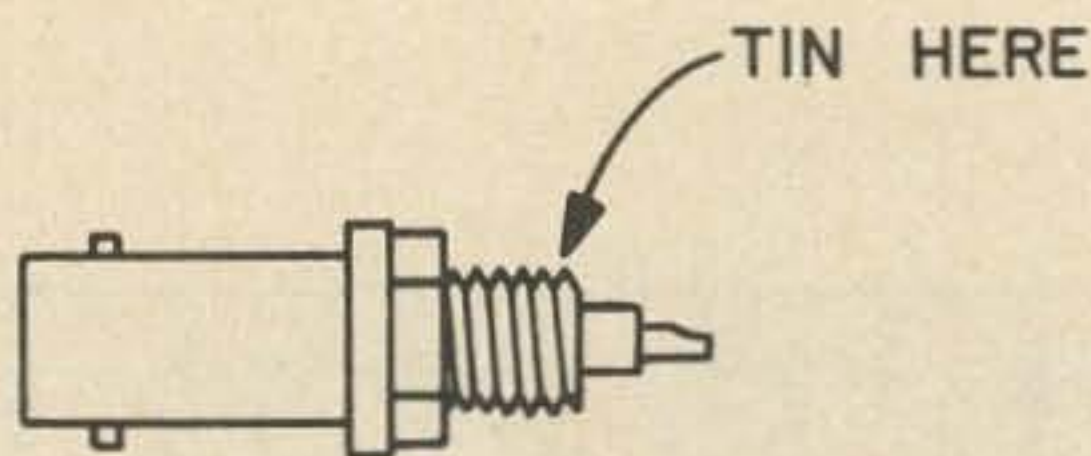

Fig. 8. Tinning UG-1094.
6. Insert three UG-1094 connectors into the holes. Loosely mount them with the lockwashers and nuts supplied. Do not tighten. Tin, with a soldering iron and solder, a portion of the grounded edge of the UG-1094 "K" and "R" connectors. See Fig. 8.